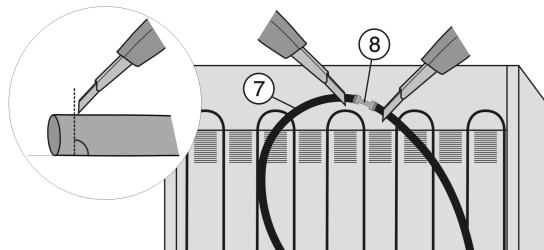

Fig. 36
- ▶ Slice open the water hose Fig. 36 (7) located behind the appliance both in front of and behind the connector Fig. 36 (8) (90° to direction of hose).